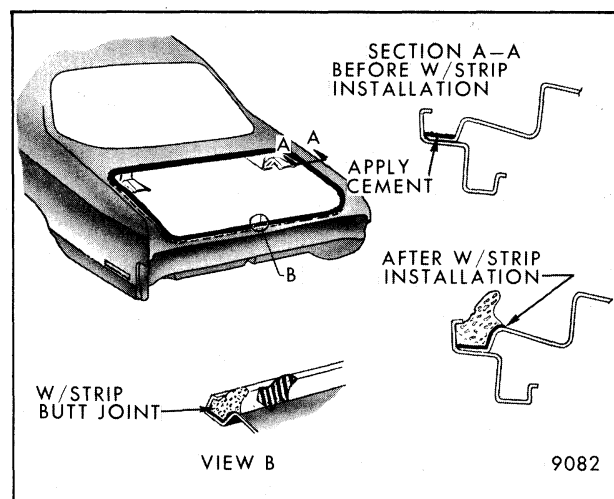

Fig. 7-44-Rear Compartment Weatherstrip - All Styles Except All "X" and "H-07, 27"
1. Separate "butt" ends of weatherstrip at bottom rear of opening (Fig. 7-44).
2. Using flat-bladed tool, such as sharp bladed putty knife, carefully cut cemented bond of weatherstrip from outer surface of gutter (Fig. 7-44). Then with a narrower sharp tool, such as a wood chisel, cut cemented bond of weatherstrip from